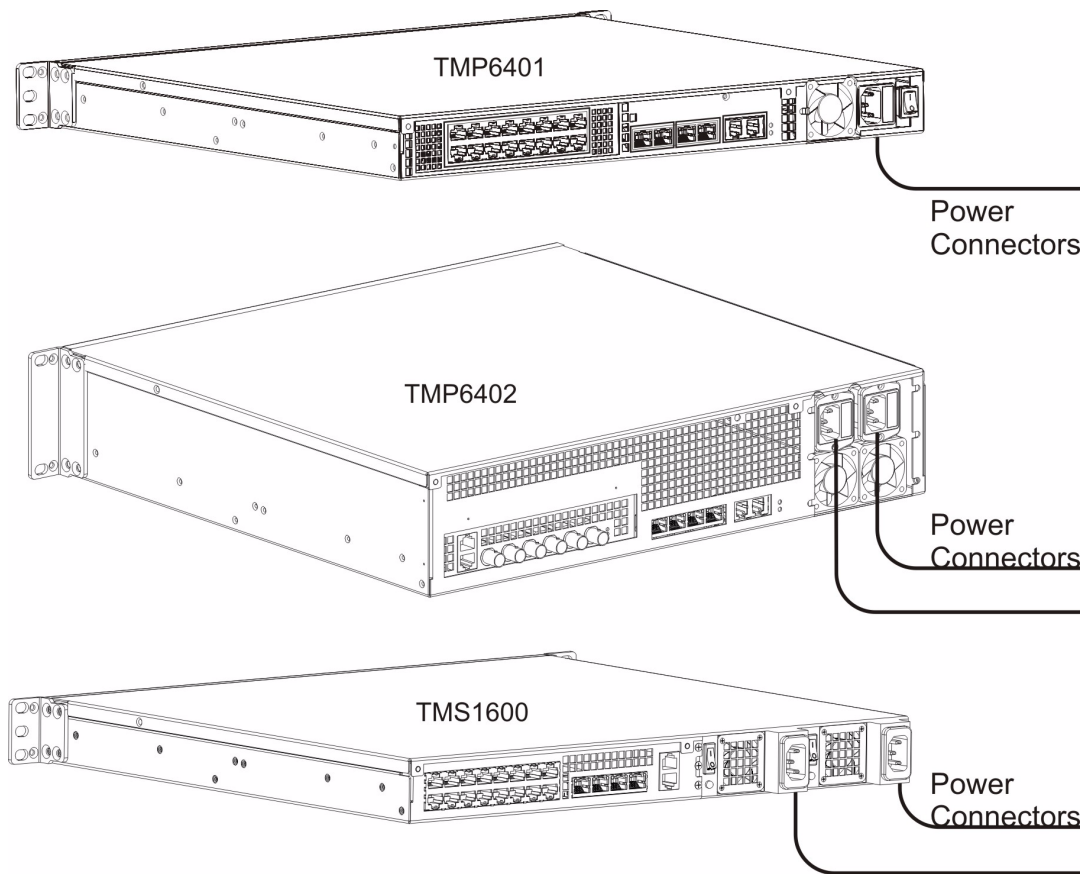

Figure 2.10 AC Power Connection
The Tmedia units are furnished with one or optionally two AC power connectors. figure 2.10 on page 22
1. Connect one AC power cable between the AC connector of the Tmedia unit and an AC supply. See figure 2.10 on page 22. If the Tmedia unit features a second AC connector, connect an additional AC power cable between this connector and an AC power supply.